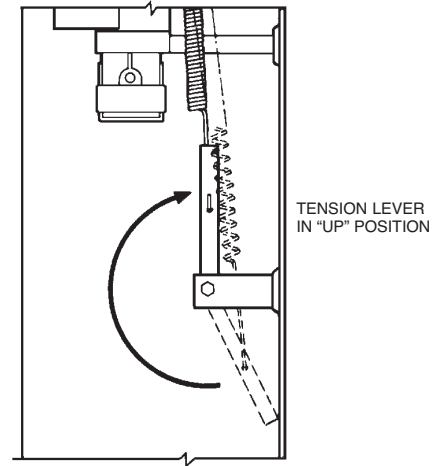

FIGURE 30
17. Make certain tension lever is in the “UP” position. See Figure 30.